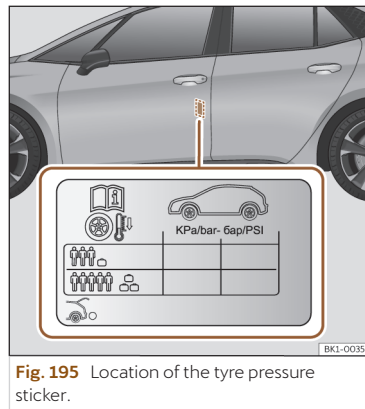

Fig. 195 Location of the tyre pressure sticker.
- Adjust tyre pressure to the load being carried by the vehicle >>> **Fig. 195**.
The values of the tyre pressure are shown on the sticker label located on the rear frame of the front left door >>> **Fig. 195.**
The tyre pressure must be adjusted according to the load the vehicle is carrying. If the vehicle is going to be fully loaded, increase the tyre pressure to the maximum load value shown on the sticker label >>> **Fig. 195.**
In the case of a minimised temporary spare wheel (125/70 R16 or 125/70 R18) inflate to a pressure of 4.2 bar as indicated on the tyre pressure label >>> **Fig. 195.**
- The driver is responsible for ensuring that all of the vehicle tyres are correctly inflated to the right pressure. The recommended tyre pressure is indicated on the label >>> **Fig. 195.**
• Tyre pressure should be that indicated on the label when the tyres are cold at all times >>> **Fig. 195.**